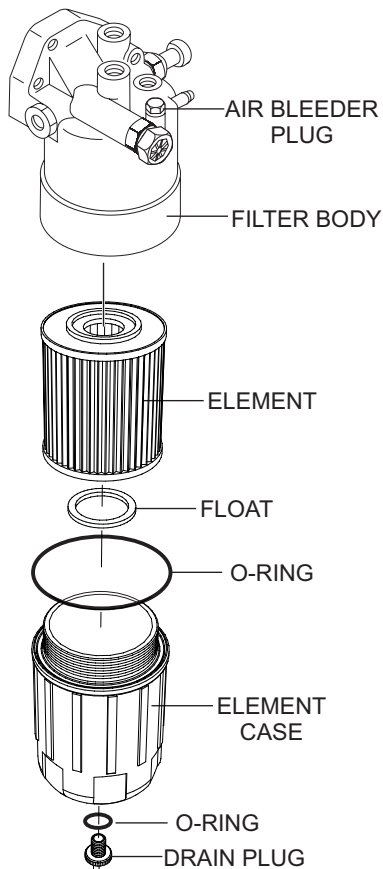

Figure 67. Fuel Filter Replacement
1. Use a filter wrench to remove the element case (Figure 67) from the fuel filter body.